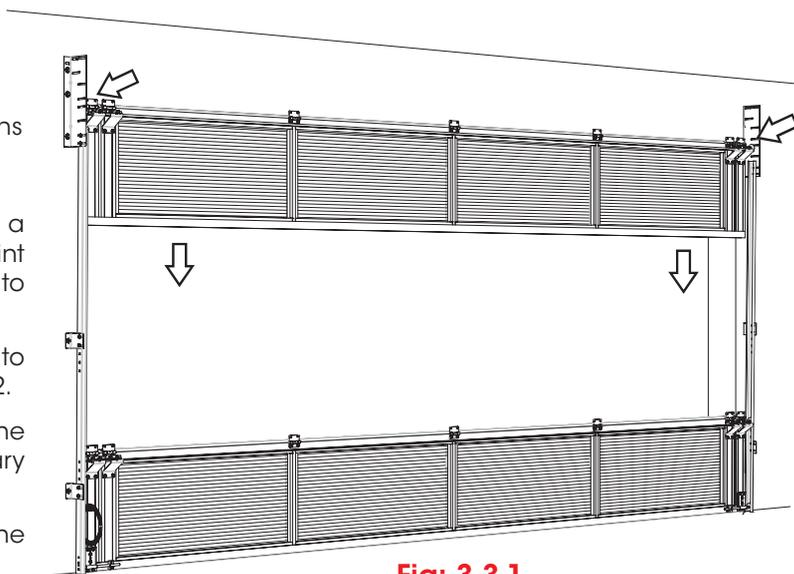

Fig: 3.3.1
- b) Insert the next panel into the guides and lower to rest on top of the bottom panel. Fig 3.3.1 and 3.3.2.